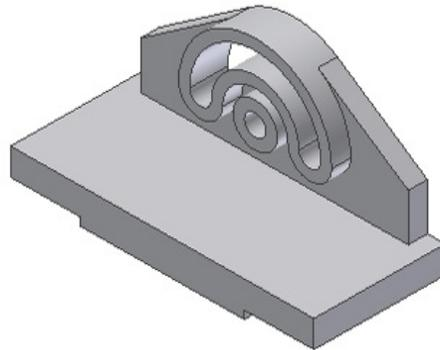

Figure 6-123 Model after creating the cut feature
- d. Create the cut feature on the third feature, refer to Figure 6-123.
3. Extrude the sketch and the circle by using the **Through All** option of the **Cut** operation in the mini toolbar to create the cut feature, see Figure 6-123.